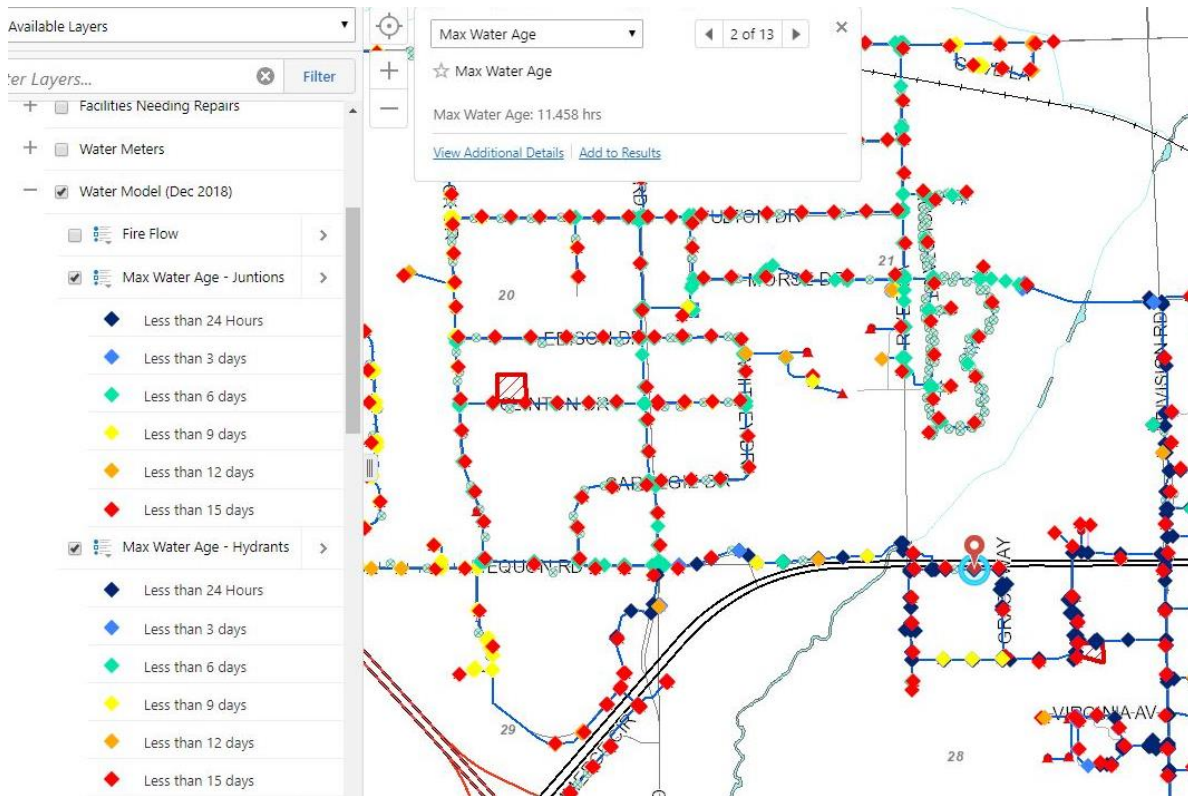

Figure 14: Hydraulic model results showing water age at junctions and hydrants.
- Pipes with high water age (see Figure 14)